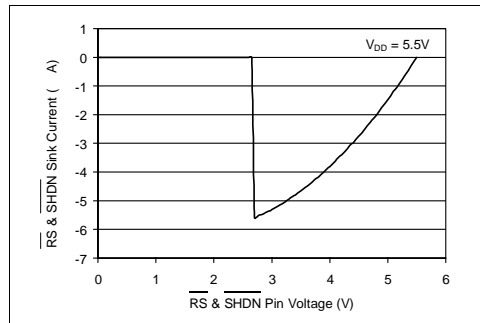

Figure 2-12: Reset & Shutdown Pins Current vs. Voltage
- See Figure 2-12 for RS and SHDN pin operation.
The Reset pin will set all potentiometers to mid-scale (Code 80h) if this pin is brought low for at least 150ns. This pin should not be toggled low when the \overline{CS} pin is low. It is possible to toggle this pin when the \overline{SHDN} pin is low. In order to minimize power consumption, this pin has an active pull-up circuit. The performance of this circuit is shown in Figure 2-12. This pin will draw negligible current at logic level 0 and logic level 1.
The Shutdown pin has a Schmitt Trigger input. Pulling this pin low will put the device in a power saving mode where A terminal is opened and the B and W terminals are connected for all potentiometers. This pin should not be toggled low when the \overline{CS} pin is low. In order to minimize power consumption, this pin has an active pull-up circuit. The performance of this circuit is shown in Figure 2-12. This pin will draw negligible current at logic level 0 and logic level 1.